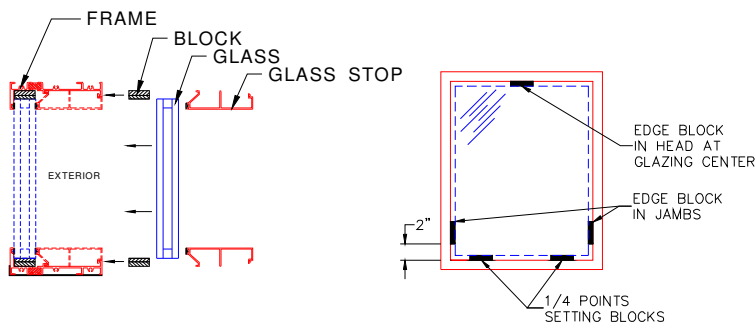

Figure 13:
1. Insert two setting blocks into the sill at the quarter points (Figure 13).
4. Insert edge blocks into each jamb at 2" above the sill and into the head at glazing center (Figure 13).